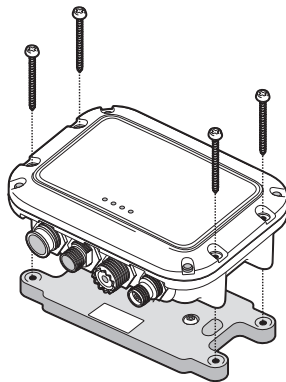

Figure 7 AIS transceiver mounting
- The product is supplied with four self-tapping screws for attachment of the AIS transceiver to the anti-tamper plate. Please refer to Figure 7 for guidance.